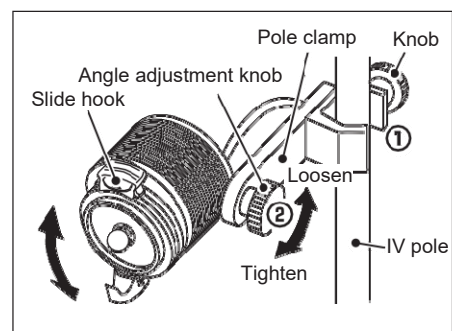

Figure 1-11
1. Attach the pole clamp to the IV pole of the Cart and secure it with the knob. (Figure 1-11 a)
2. Adjust the angle of the motor with the angle adjustment knob. (Figure 1-11 b)